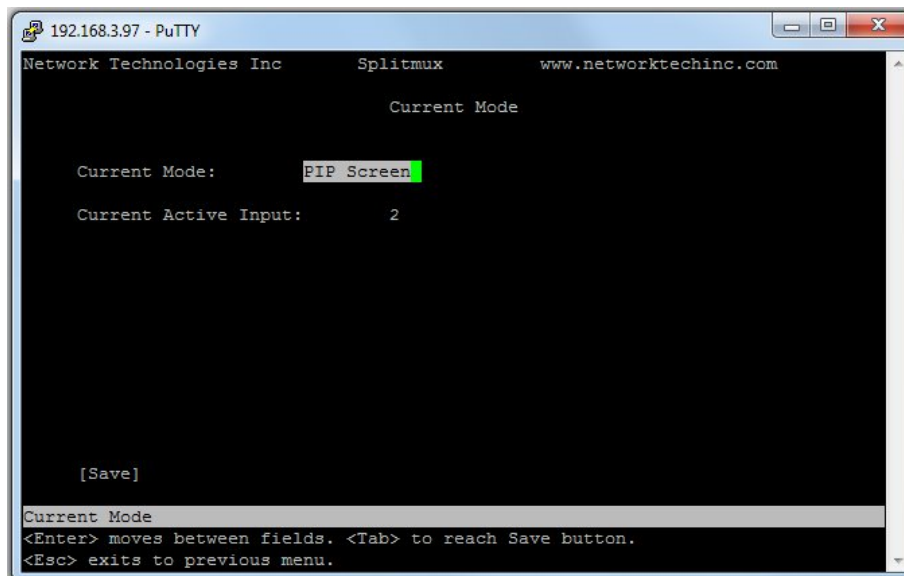

Figure 37- Text Menu-Current Mode Selection
- To move from menu list to action key (such as “Save” in Figure 37), press <Tab>.